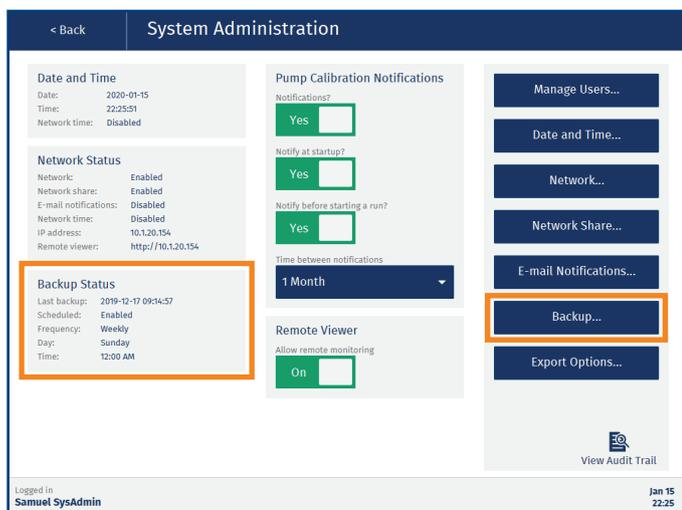

Figure 31. The System Administration view.
To get a quick overview of the backup setup and when the last backup was performed, see the **Backup Status** field in the **System Administration** view (see Figure 31).
1. In the **System Administration** view, press **Backup...** (see Figure 31).